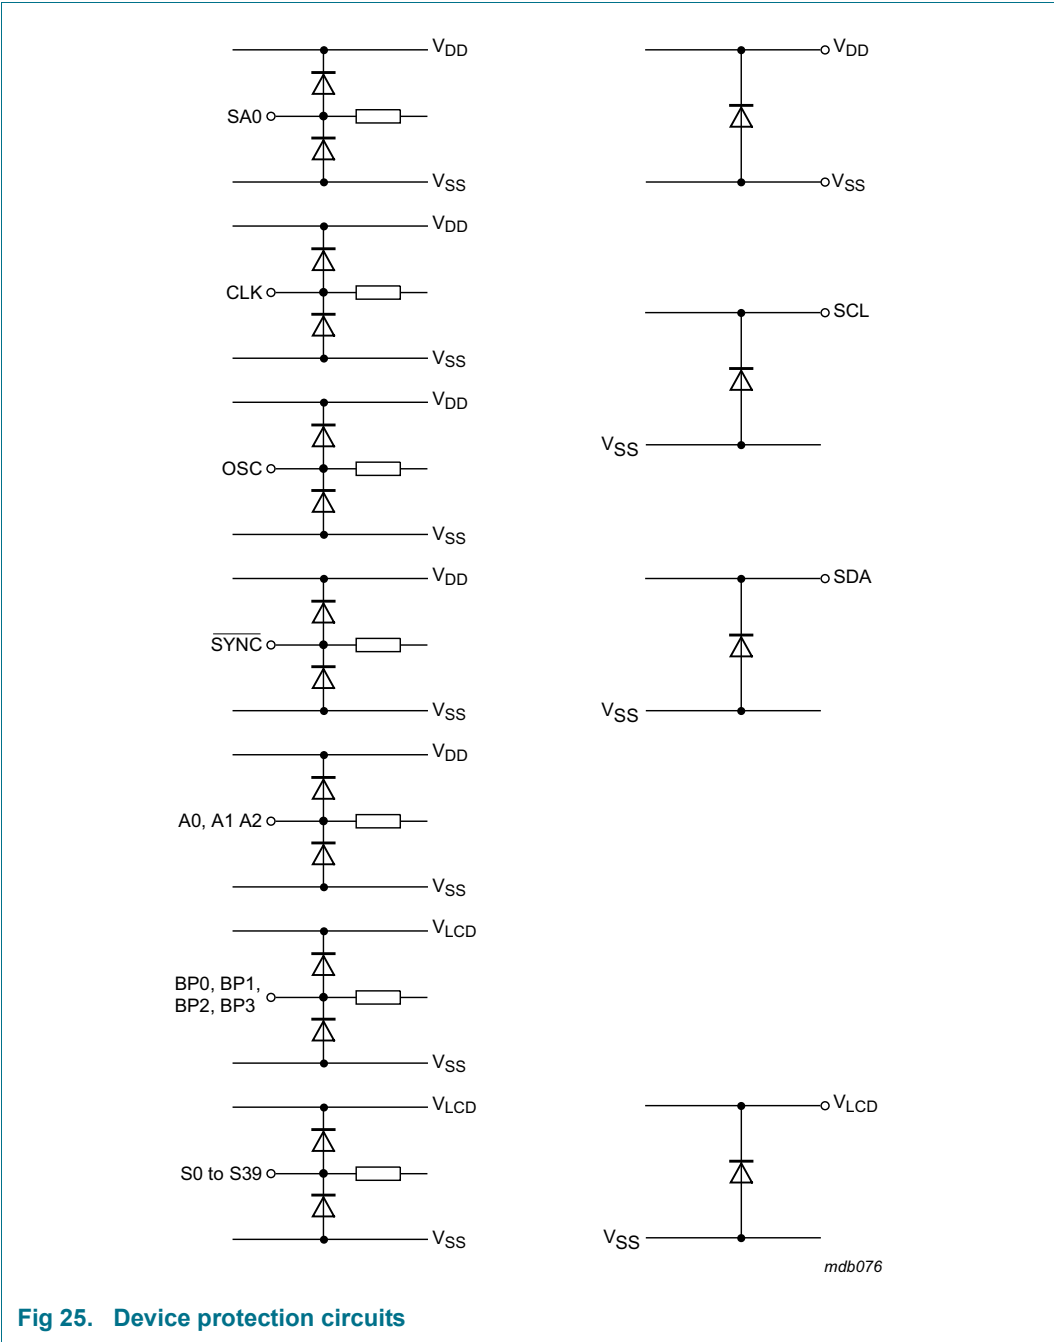

Fig 25. Device protection circuits
- [4] When tested, I2C pins SCL and SDA have no diode to  $V_{DD}$  and may be driven to the  $V_I$  limiting values given in Table 19 (see Figure 25 as well).